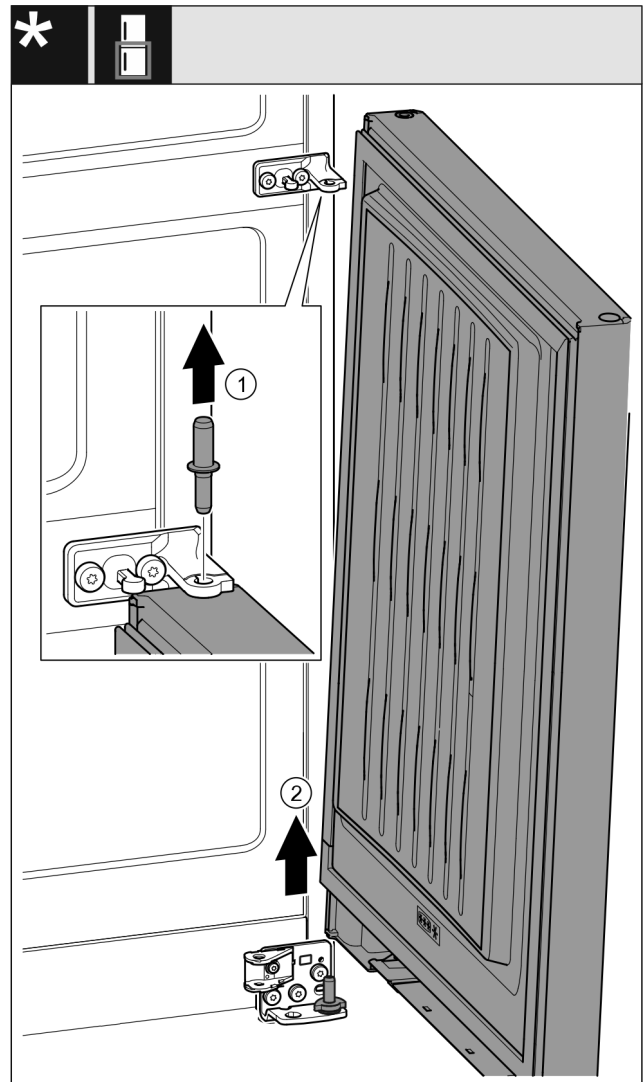

Fig. 22 With closing damper*
- ▶ Pull out the bolt Fig. 22 (1) upwards.*
- ▶ Swing out the door Fig. 22 (2), pull it upwards and set it aside.*